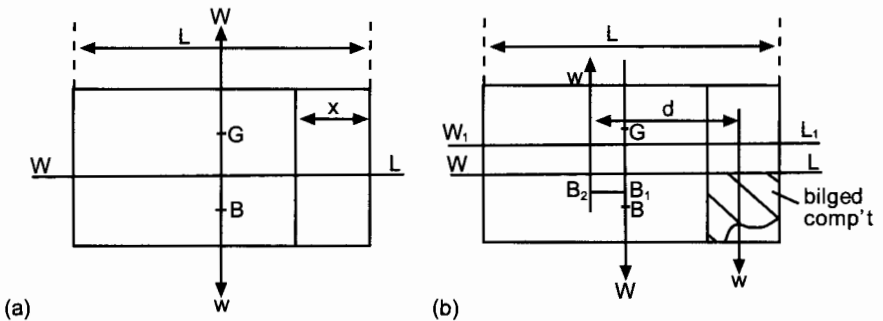

Fig. 21.3
Consider the box-shaped vessel shown in Figure 21.3(a). The vessel is floating upright on an even keel, WL representing the waterline. The centre of buoyancy (B) is at the centre of the displaced water and the vessel's centre of gravity (G) is vertically above B. There is no trimming moment.
Now let the forward compartment which is X metres long be bilged. To make good the loss in buoyancy, the vessel's mean draft will increase as shown in Figure 21.3(b), where  $W_1L_1$  represents the new waterline. Since there has been no change in the distribution of mass within the vessel, the centre of gravity will remain at G. It has already been shown that the effect on mean draft will be similar to that of loading a mass in the compartment equal to the mass of water entering the bilged space to the original waterline.